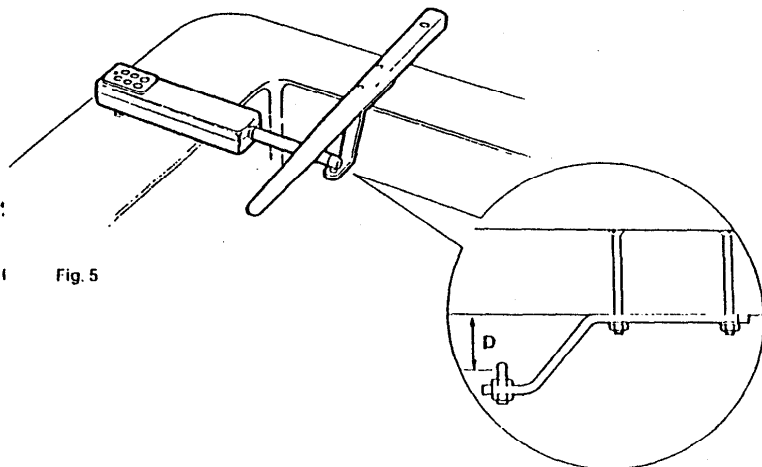

Fig. 5
**TILLER BRACKETS (Figs. 5 and 6)**